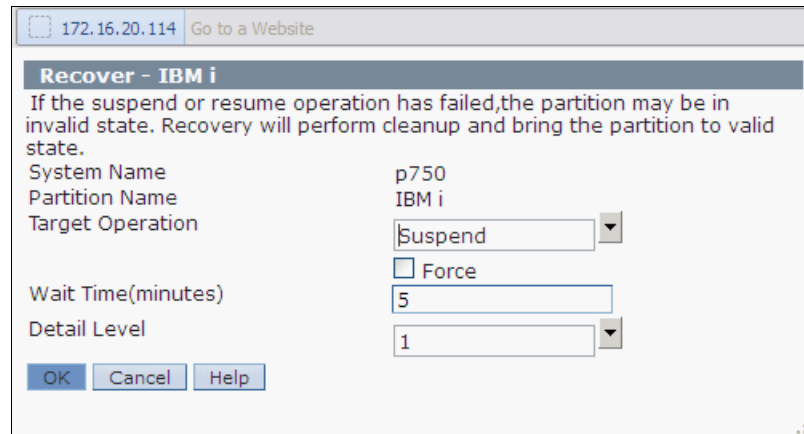

Figure 13-21 Partition recover operation
3. Select the type of operation you want to recover from in the **Target Operation** menu and click **OK** as shown in Figure 13-21.